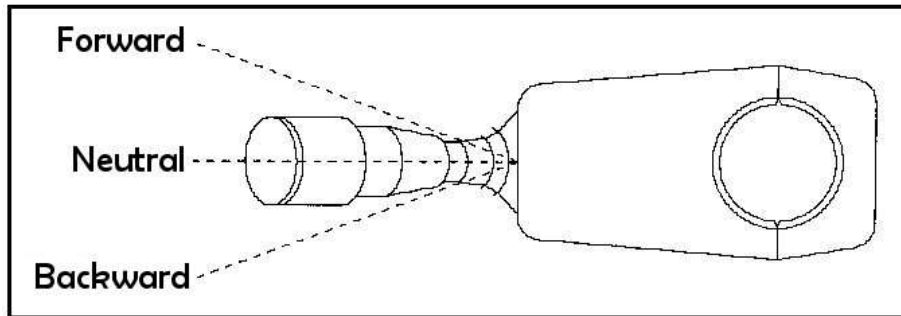

Figure 5.1 | Forward/backward switch
1. Before starting the engine, the settle pedal must be completely depressed. Put the forward/backward switch in neutral, otherwise the engine will not start (see Figure 5.1)
2. Put the forward/backward switch in the desired position. The “Boxer II” is equipped with an automatic transmission axle. Therefore, you can only choose between forward and reverse (see Figure 5.1). If you want to go forward, push the switch away from you until it cannot go further. To go backwards, pull the switch the same way towards you.